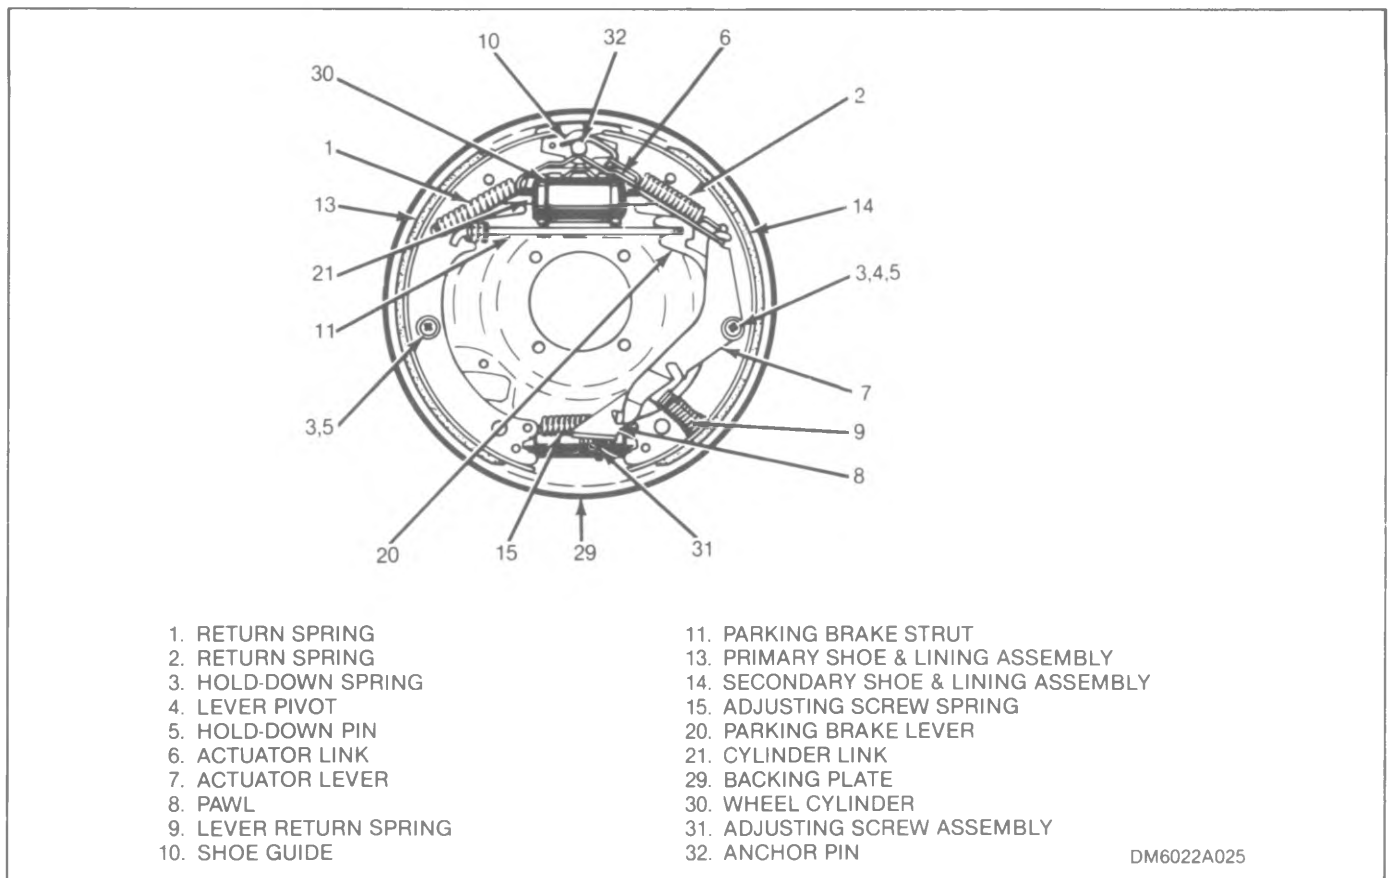

Figure 3-1. Conventional Duo-Servo Drum Brake
3-3. CONVENTIONAL DUO-SERVO DRUM BRAKE (See figure 3-1). This type brake is characterized by the use of an anchor pin (32) attached to a heavy backing plate (29). The wheel cylinder (30) is bolted to the backing plate. Refer to paragraph 3-19